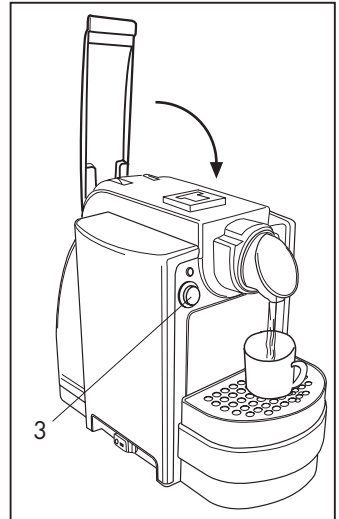

Fig. 10
Fully lower the lever and press button (3) until the desired quantity has been released, then press button (3) again to stop (**Fig. 10**).
- Repeat the steps above for additional cups of coffee/tea using a new capsule for each drink. To prepare a large coffee, prepare an Espresso first, then press button (3) until the desired quantity of hot water is dispensed.
- To fully remove the capsule, slowly lift the lever (1). If the capsule does not come out, repeat the procedure or press the start button (3) while simultaneously lifting the lever (1).
- Fully lower the lever and press button (3) until the desired quantity has been released, then press button (3) again to stop (**Fig. 10 page 21**)